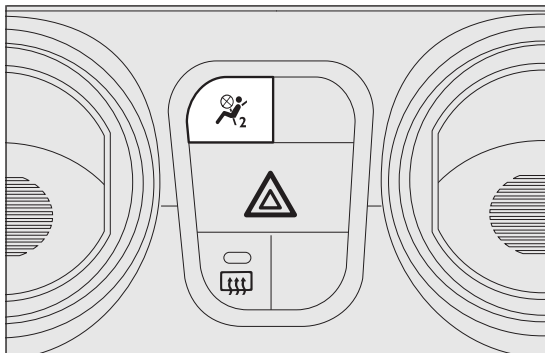

fig. 117
- ☐ If the passenger's front airbag is deactivated always check the  warning light always lighted on the central dashboard fig. 117 to make sure that it has actually been deactivated.